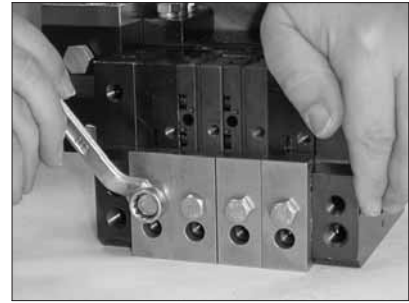

Figure 7-32 Installing a pump clamp
5. See Figure 7-32. Reinstall the pump clamps. Tighten the pump clamp bolts to 24–25 N•m (213–221 in.-lb).